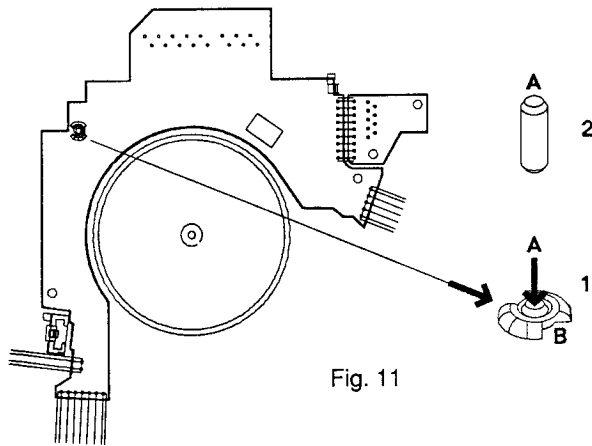

Fig. 11
- Press the stud A of rivet B right through rivet B. (It can be recovered from the lower support after the board is lifted.) (Fig. 11).